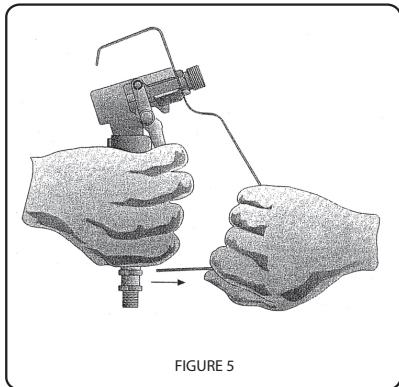

FIGURE 5
- 2 Remove the trigger guard (figure 5).